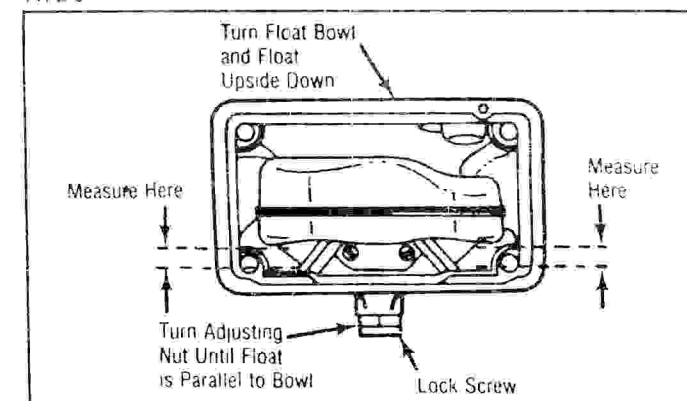

Fig. 4 Float Level Adjustment - Dry Setting
- Remove and invert float bowl. Float should rest on fuel inlet needle, equidistant from top and bottom of inside surface of float bowl. See Fig. 4.